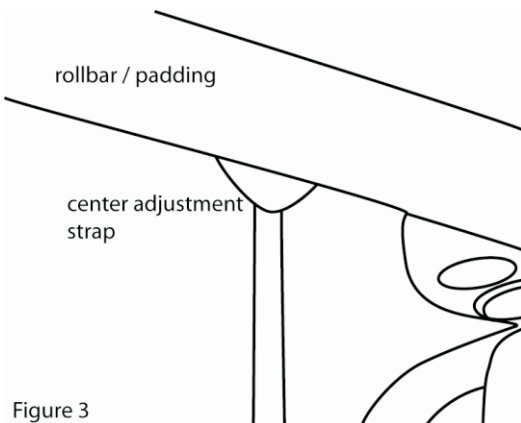

Figure 3
**NOTE: So as not to over tighten, do not use any tools to tighten this strap.** See Figure 3 & 4.